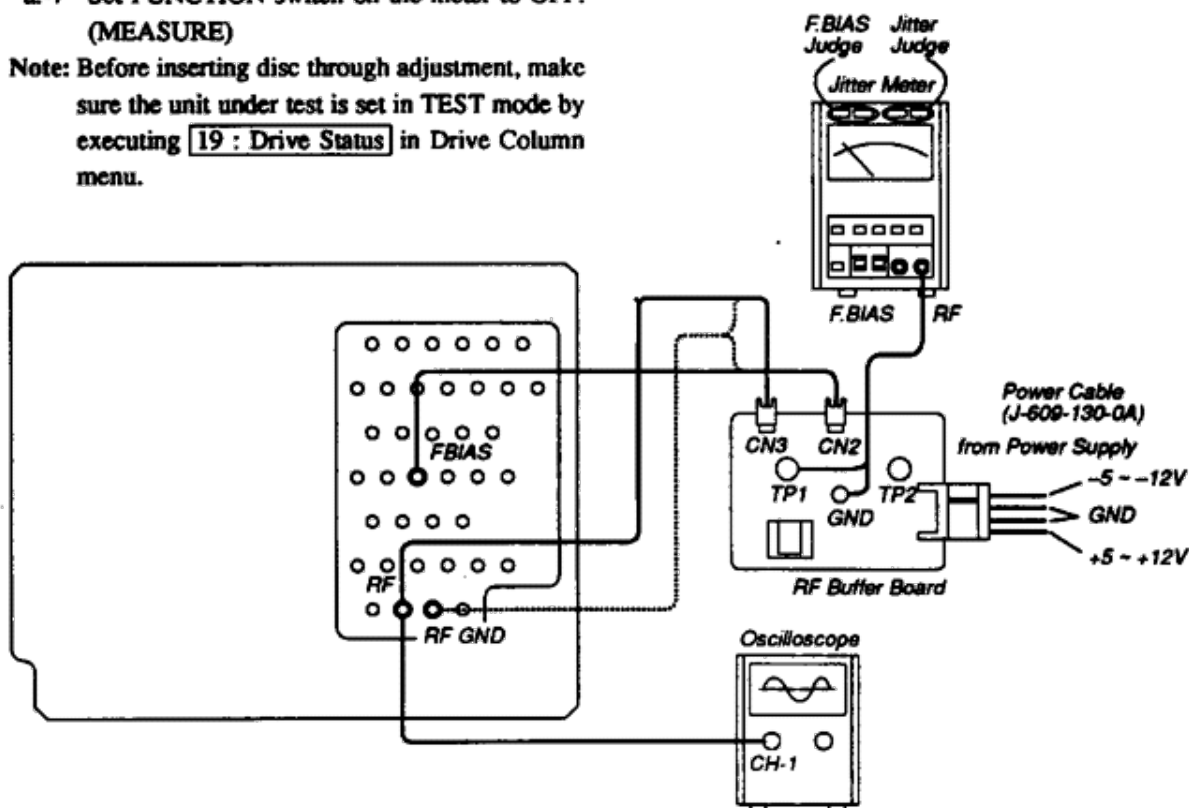

Fig. 5-2-8 RF Adjustment
- a.-1 Connect the BNC Cable (one end) lead from Jitter Meter to RF (AP5020) (ground for GND (TP8342)) on the Pin board through the RF Buffer Board. (Refer to Fig. 5-2-8)
- a.-2 Connect probe of the Oscilloscope to RF (AP5020) on the Pin board. (Refer to Fig. 5-2-8)